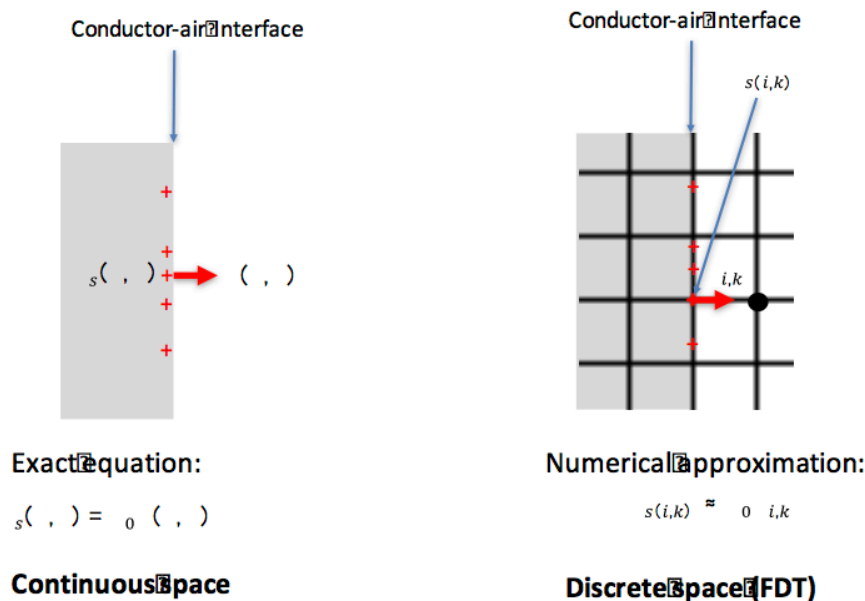

Figure 4. Numerically calculating the surface charge density at the surface of a conductor.
Once the $\mathbf{E}$ field is determined at each position along the surface of a conductor, the surface charge density in C/m^2 at each position along the surface can be calculated numerically, as illustrated in Figure 4. Recall that for any conductor in electrostatic equilibrium, all the excess charge resides on the surface (i.e. the interior of the conductor is overall neutral). Therefore, the total net charge per-unit-length Q_ℓ in C/m on a conductor is found by integrating (i.e. continuously
- Figure 4 shows a very crude model of a cloud over a grounded lightning rod. Again, assume no variation in the z-direction: